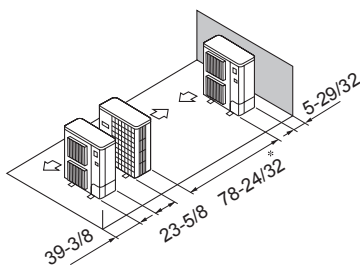

Fig. 3-15
⑤ Single parallel unit arrangement (Fig. 3-15)